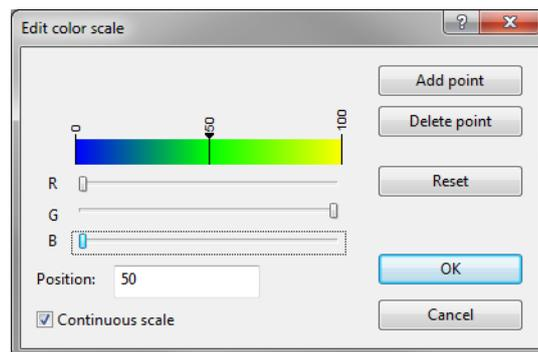

Figure 4: Green color.
13. Select the <Add point> button. A new color mark appears in the middle. Adjust its color to green (see Figure 4).